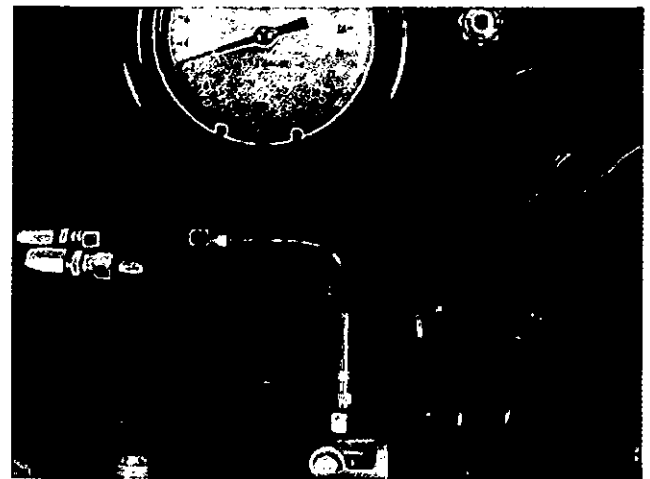

Fig. 10-19, (F5330). Open the idle orifice valve of the test stand.
2. Make sure the control valve for the main flow is closed. Open the idle orifice valve or leakage flow meter, if available. Fig. 10-19.